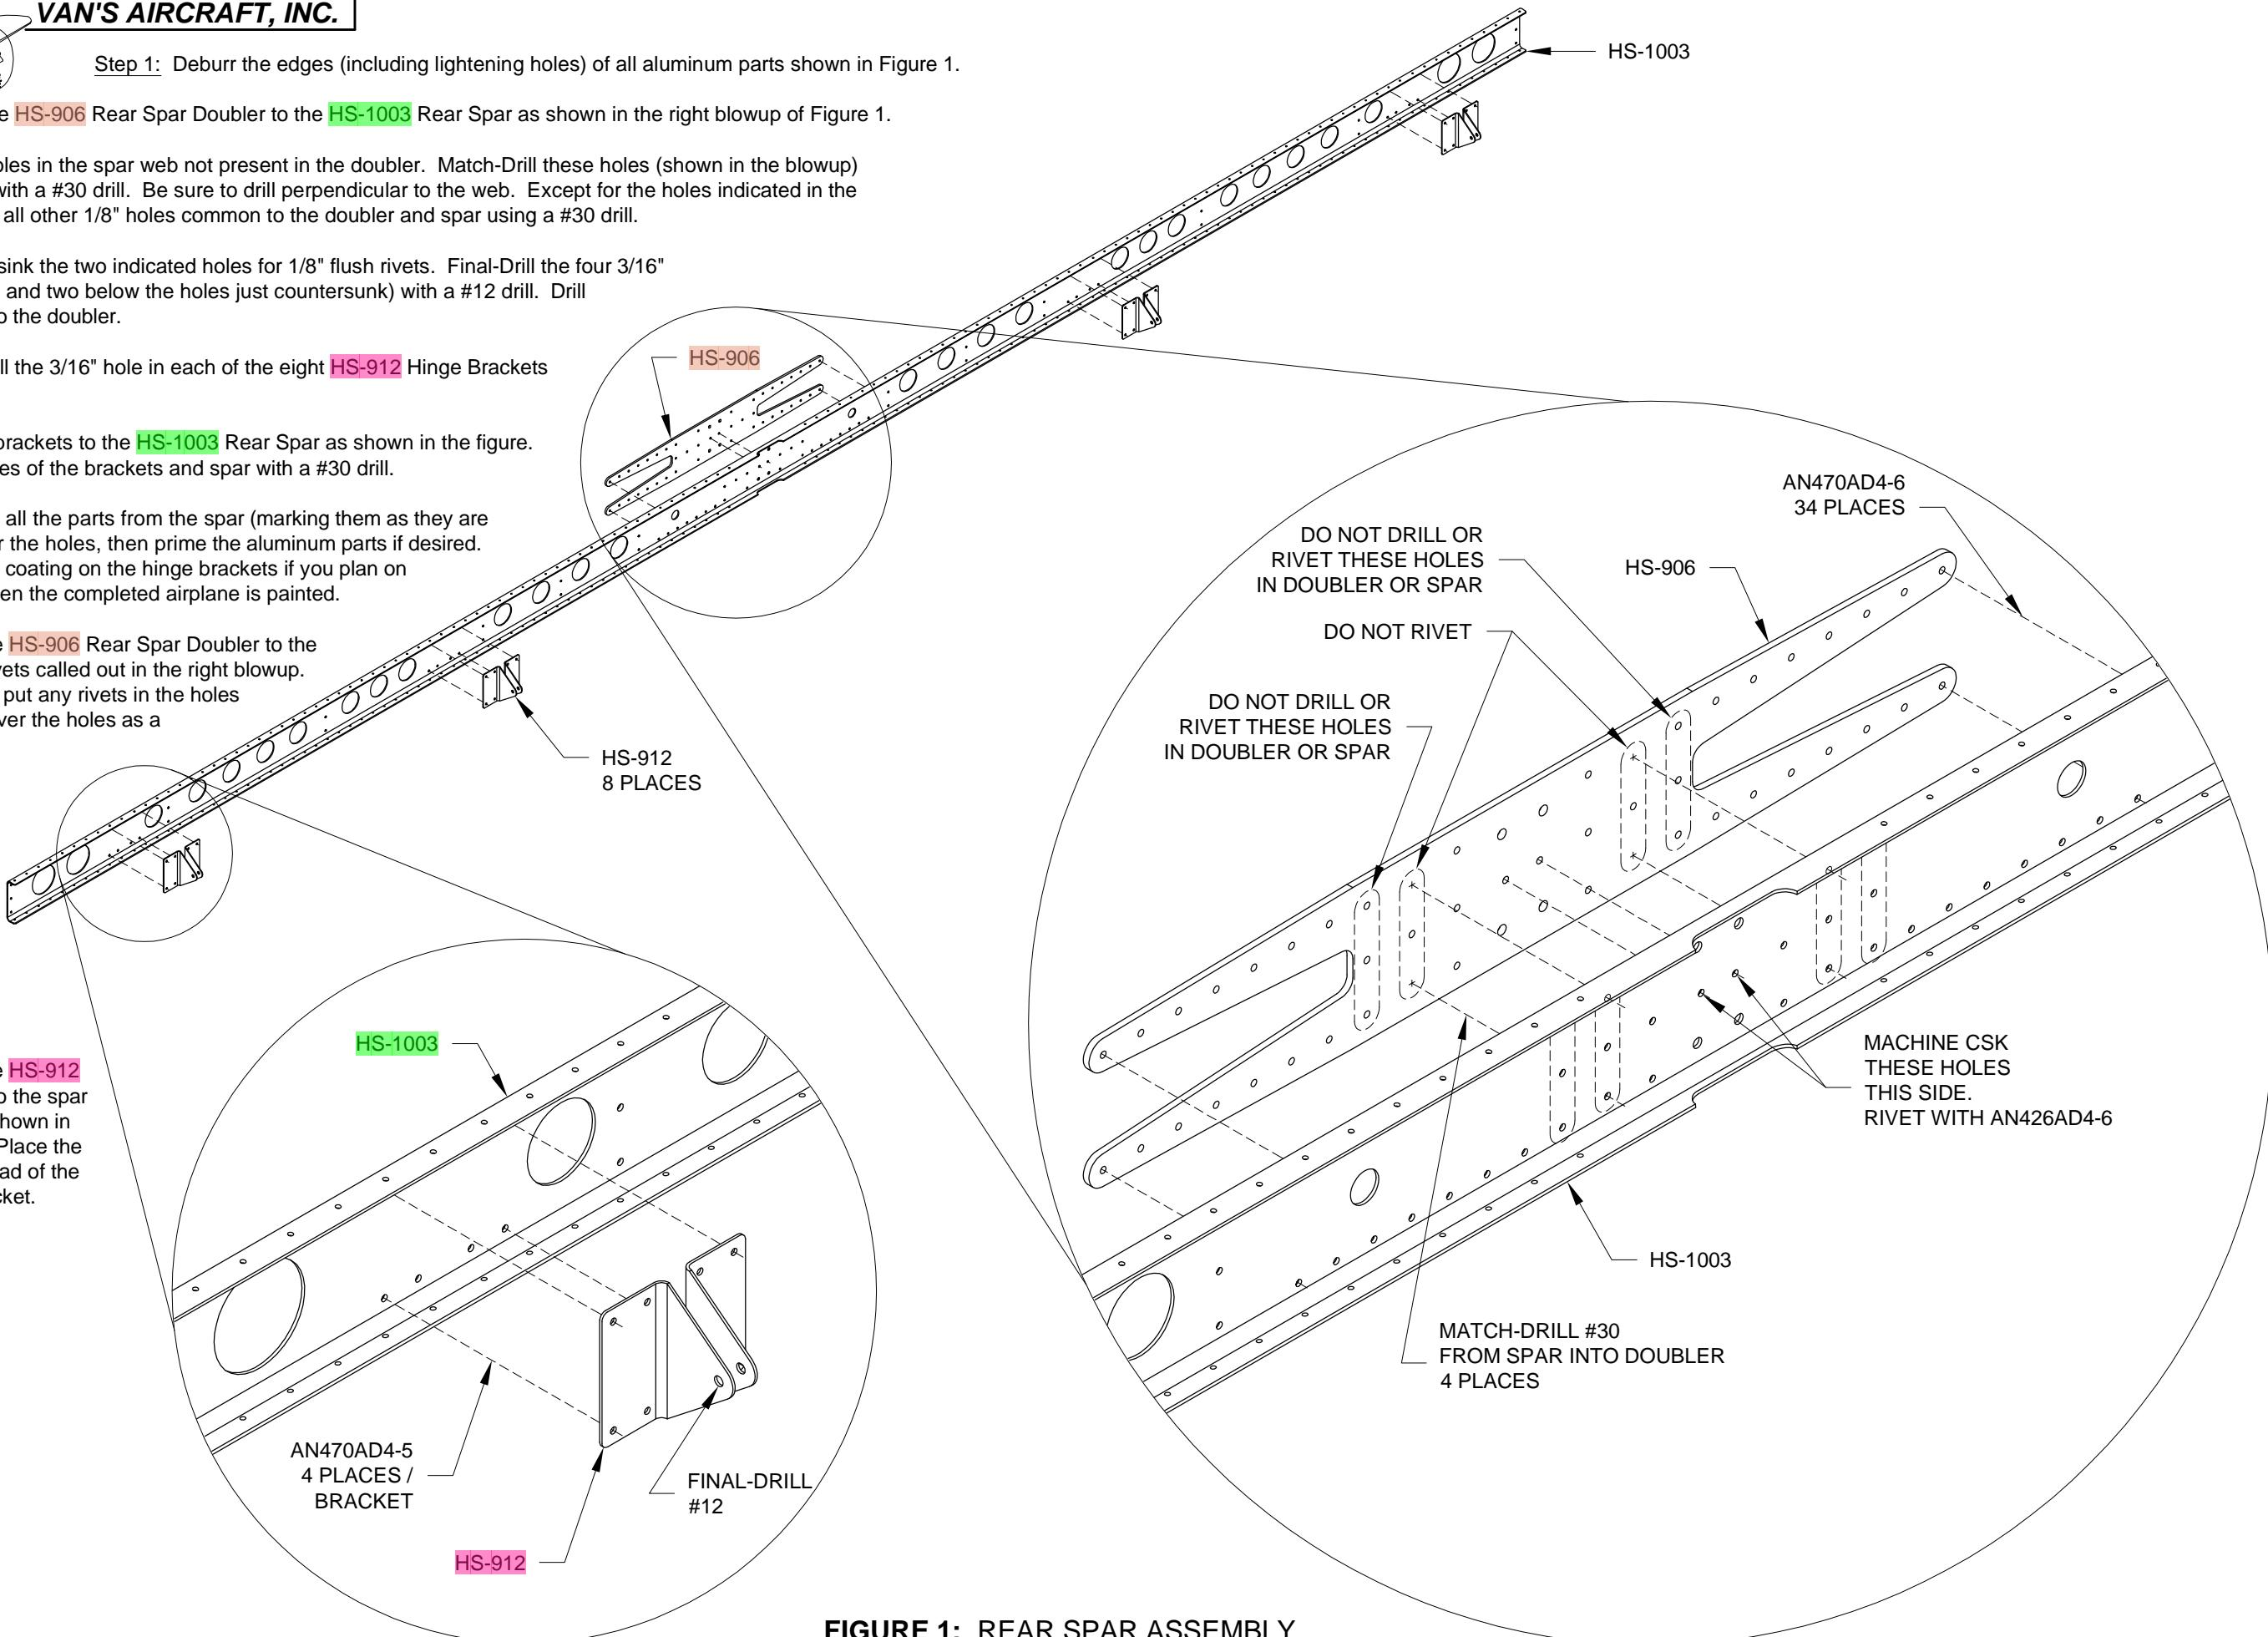

FIGURE 1: REAR SPAR ASSEMBLY
Step 1: Cleco the VA-146 Flange Bearing between the two HS-911 Inboard Hinge Brackets as shown in Figure 1. Final-Drill the six holes common to all the parts with a #30 drill and the two 3/16" holes in the flange of the hinge brackets with a #12 drill.